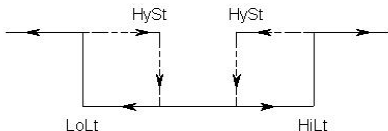

Fig. 2
Terminal layout Fig. 2
- \* The function of " Low Limit value " setting, refer to page 10, Fig. 2.*
*\* The function of " High Limit value " setting, refer to page 10, Fig. 2.*
- \* The function of " Hysteresis value " setting, refer to page 10, Fig. 2.*